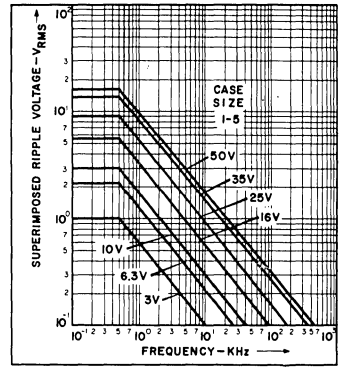

Figure 3
**AC RIPPLE VOLTAGE**—Sum of superimposed peak AC voltage and DC voltage must not exceed rated voltage. See figures 3, 6 and 9.